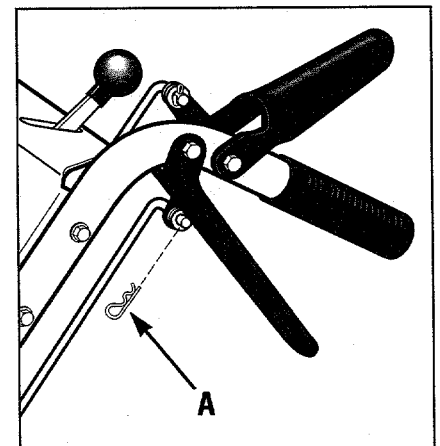

Figure 5-12A
2. Remove hair pin cotter (A, Figure 5-12A) from upper end of Wheel Drive Control rod. Slide rod out of lever assembly.